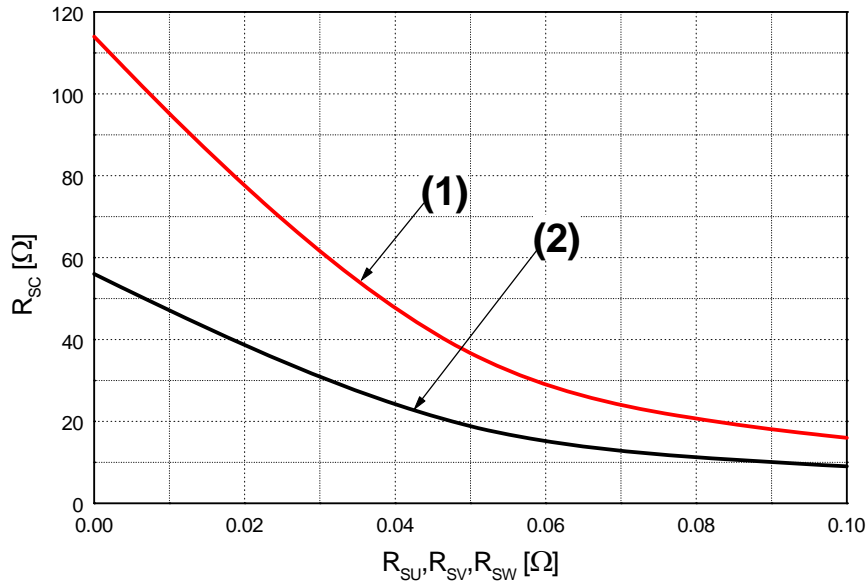

Figure 6. R_{sc} Variation by Change of Shunt Resistors (R_{SU}, R_{SV}, R_{SW}) for Short-Circuit Protection
- Short-circuit protection is functioning only at the low-sides. It would be recommended that the value of the external sensing resistor (R_{SC}) should be selected around 56 Ω in order to make the SC trip-level of about 22.5A at the shunt resistors (R_{SU}, R_{SV}, R_{SW}) of 0 Ω. For the detailed information about the relationship between the external sensing resistor (R_{SC}) and the shunt resistors (R_{SU}, R_{SV}, R_{SW}), please see Figure 6.